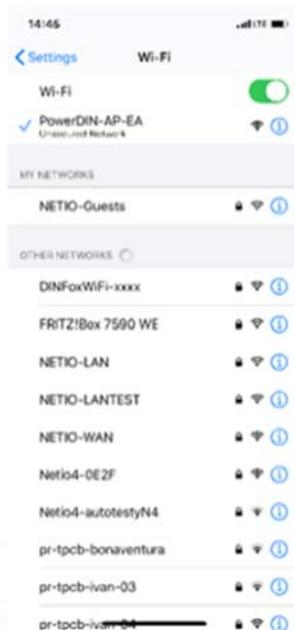

Figure 1
- Connect from PC, tablet or smartphone, to WiFi “PowerBOX-AP-xx”. (Figure 1)